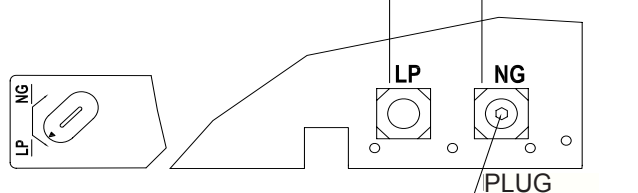

Fig. 16
2. For propane gas, press in knob using a flat screw driver with a blade the thickness of a quarter and turn knob counterclockwise  until the knob locks into the LP position, see Figure 16. Fuel selection device must be locked in the LP position. Do not operate heater between locked positions.